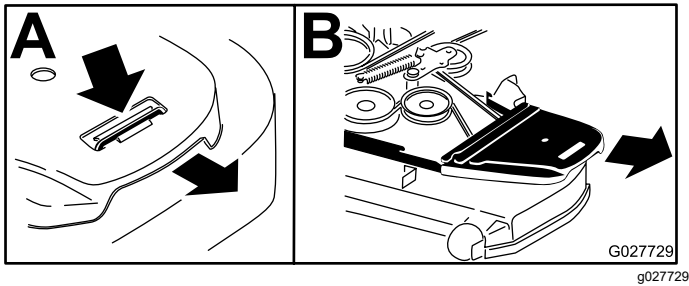

Figure 60
7. Remove the belt covers and the bolts attached to them (Figure 60).